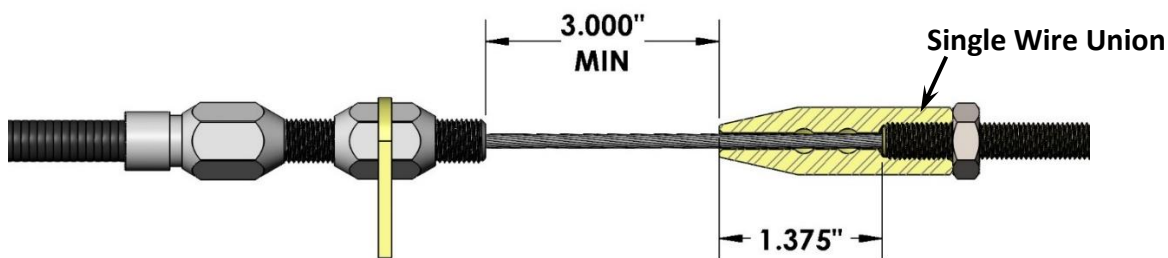

Figure 4 – Inner Wire Minimum Clearance Length (Cross Section View)
7. With the Inner Wire extending past the Cable Adjuster, mark the wire to be cut **IF USING A SINGLE WIRE UNION**. The wire will need at least 3.000" of total wire travel to allow for adequate movement of the emergency brake lever at the caliper. Refer to Figure 4 below for reference. Allow an additional 1.375" of Inner Wire length for insertion into the Single Wire Union.